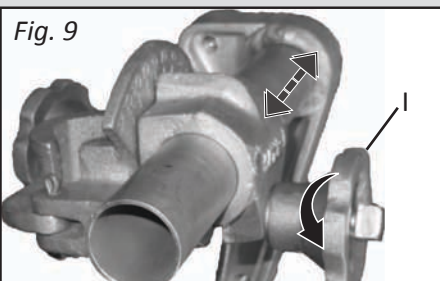

Fig. 9
2. Position adjustment. (Fig. 9)
A. Loosen position adjustment knob. (I, Fig. 9)
C. Tighten position adjustment knob. (I, Fig. 9)